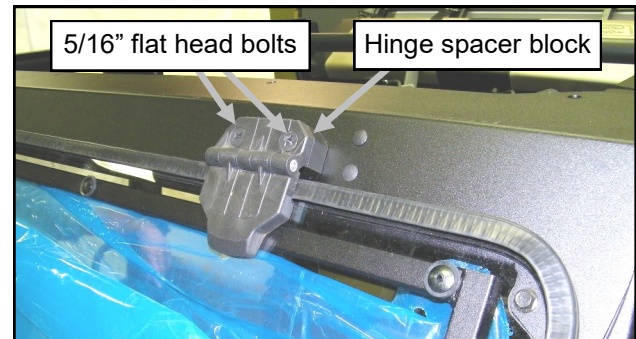

Fig. 10.1a Windshield, outside
10.1 Per figures 10.1a and b, place a hinge spacer block onto the windshield hinge and two flat head 5/16" bolts through each hinge. **Note: for glass windshields, use the thinner 5/8" thick hinge spacer blocks found in the windshield box. For polycarbonate windshields, use the thicker 3/4" thick hinge spacer blocks found in the hardware box.** Place the windshield onto the windshield support with the bolts through the slots and secure with 5/16" nuts.